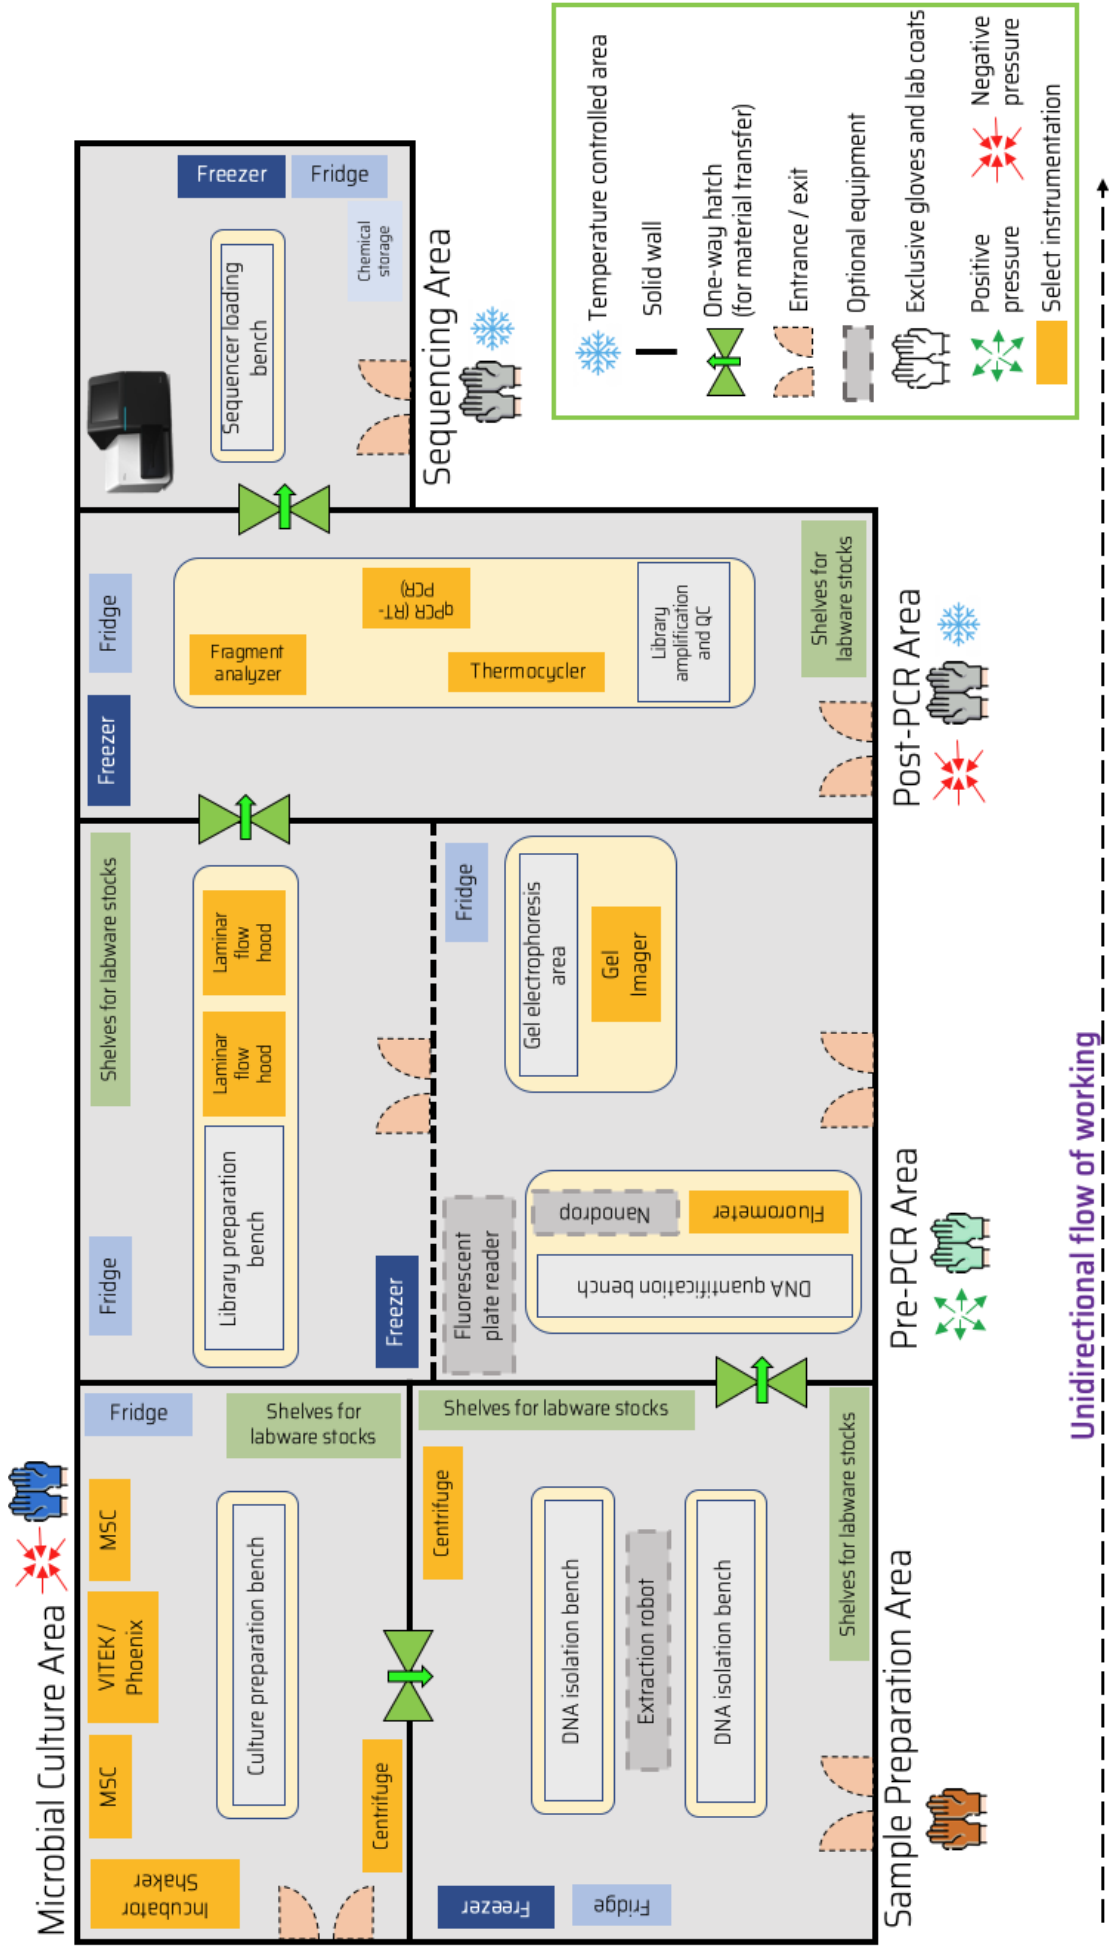

Figure 1. Ideal laboratory layout for an end-to-end bacterial genome sequencing setup.
Described in Figure 1 is the ideal laboratory layout for an end-to-end genome sequencing setup. In reality, due to local limitations, it is not always feasible to replicate this template. However, adjustments can be made to ensure physical separation and thereby, reduction in cross-contamination. This is not a one-size-fits-all model
D.1.1. As described on Figure 1, separation needs to be maintained between the various working areas to avoid contamination. How likely is this a possibility to set up for your lab?